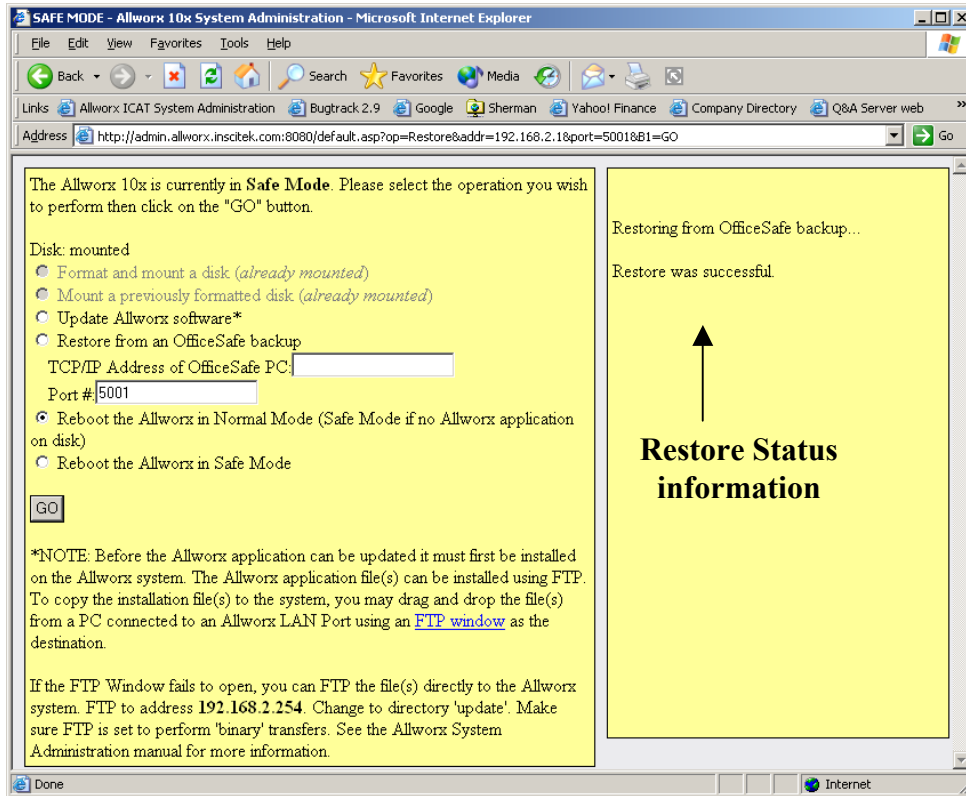

Figure 8-6 –Restore Status Information
22. The middle green light on the Allworx server front panel will flicker as the process progresses. A message will appear in the Status pane when the process is done. (Figure 8-6).